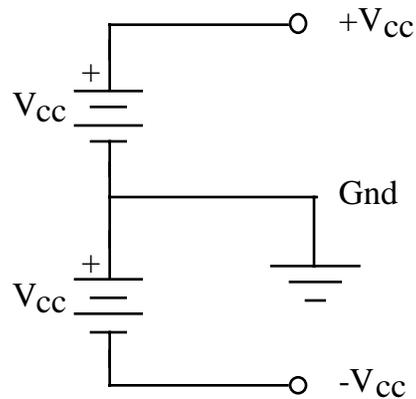

Figure 1. Power Supply Configuration
1. The schematic of Fig. 1 shows a standard $\pm V_{CC}$ configuration for OP AMPs. The schematic symbols for a battery are used in this schematic to remind us that these supplies need to be a constant DC voltage. They are not signal sources.
As shown in Fig. 1, the connection labeled "Gnd" between the V_{CC} supplies is used as a circuit ground. This corresponds to the common binding post (connected to the green common binding post) on your power supply.